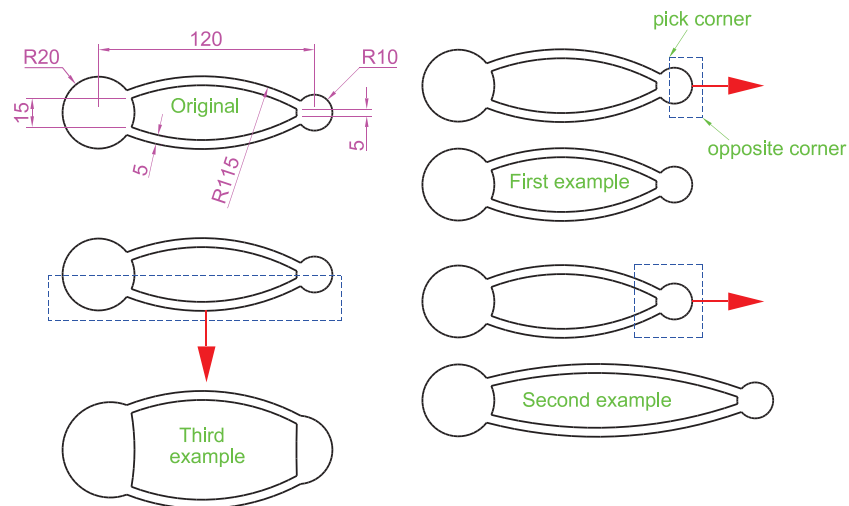

Fig. 5.34 Examples – **Stretch**
Examples – Stretch (Fig. 5.34)
1. Construct the drawing labelled **Original** in Fig. 5.34, but do not include the dimensions. Use the **Circle**, **Arc**, **Trim** and **Polyline Edit** tools. The resulting outlines are plines of width = 1. With the **Copy** tool make two copies of the drawing.
In each of the three examples in Fig. 5.34, the broken lines represent the crossing windows required when **Stretch** is used.